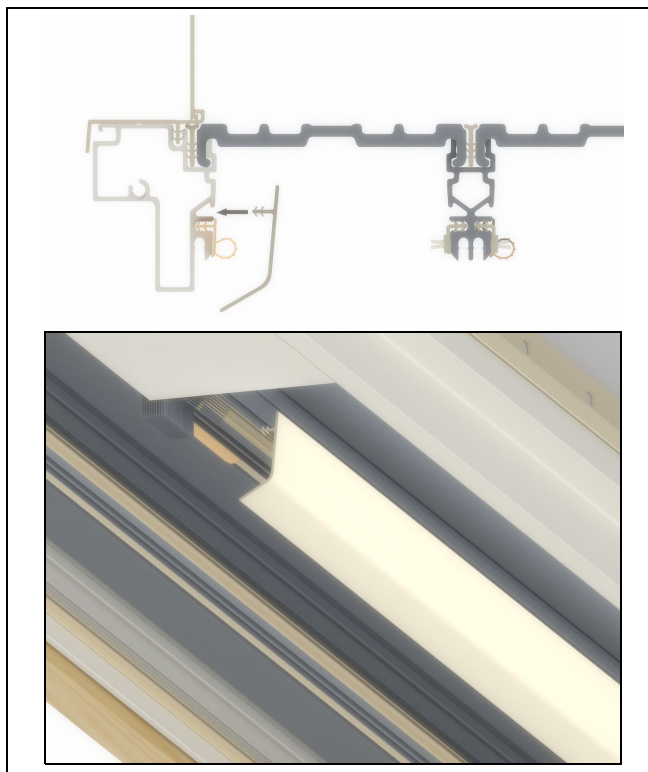

Figure 64
1. Install the weather strip guard by measuring the overall panel width and placing the four weather strip guards into the kerf above the head jamb weather strip the panel width apart. See figure 64.